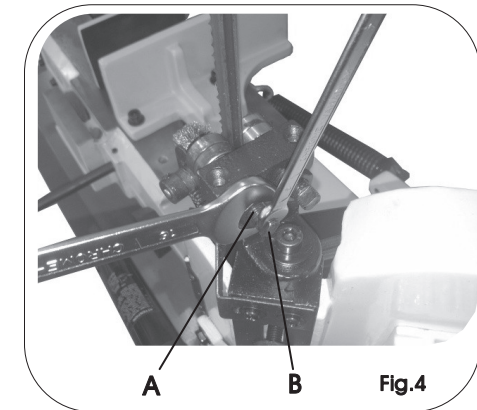

Fig.4
3. Loosen the nut (Fig.4, A) holding the eccentric shaft in position.
4. With a spanner turn the eccentric shaft (Fig.4, B) until there is a gap of about 0.001", you should just be able to slide a piece of paper between the gap.